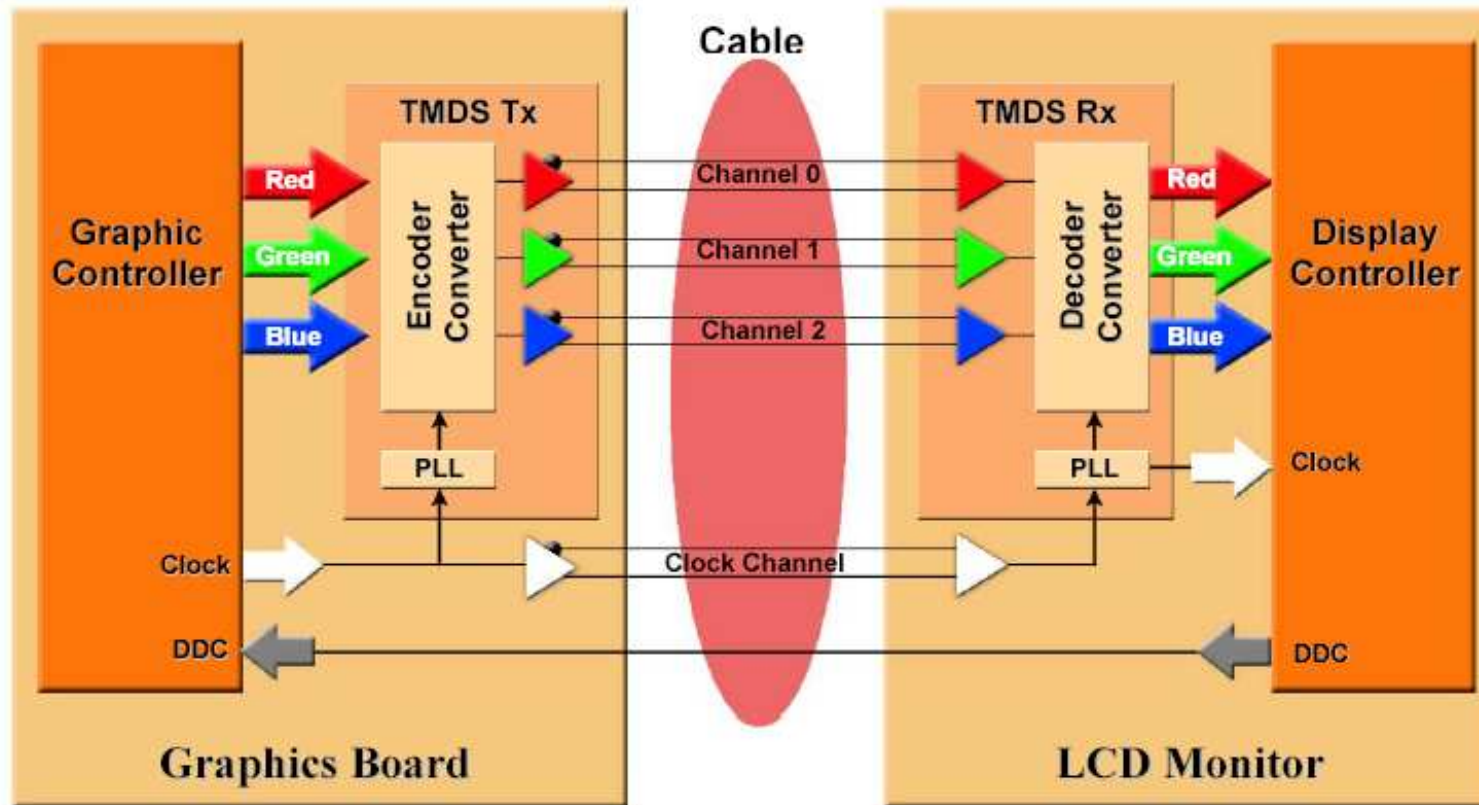
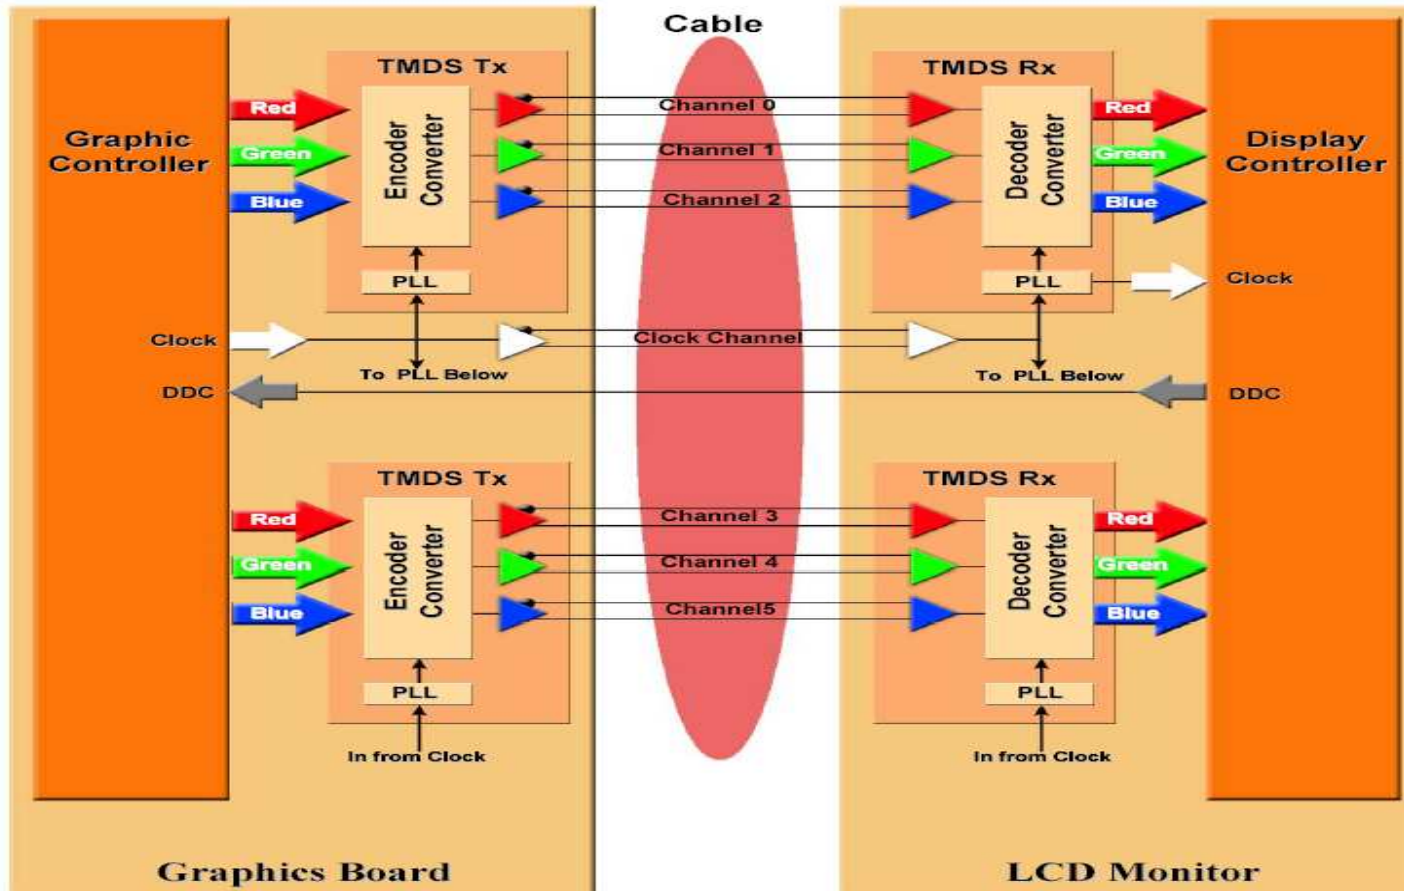

Fig. 3. The control of LCD monitor through one DVI connection
Fig. 4 The control of LCD monitor through two DVI connections
- Comments to Fig. 3 and Fig. 4